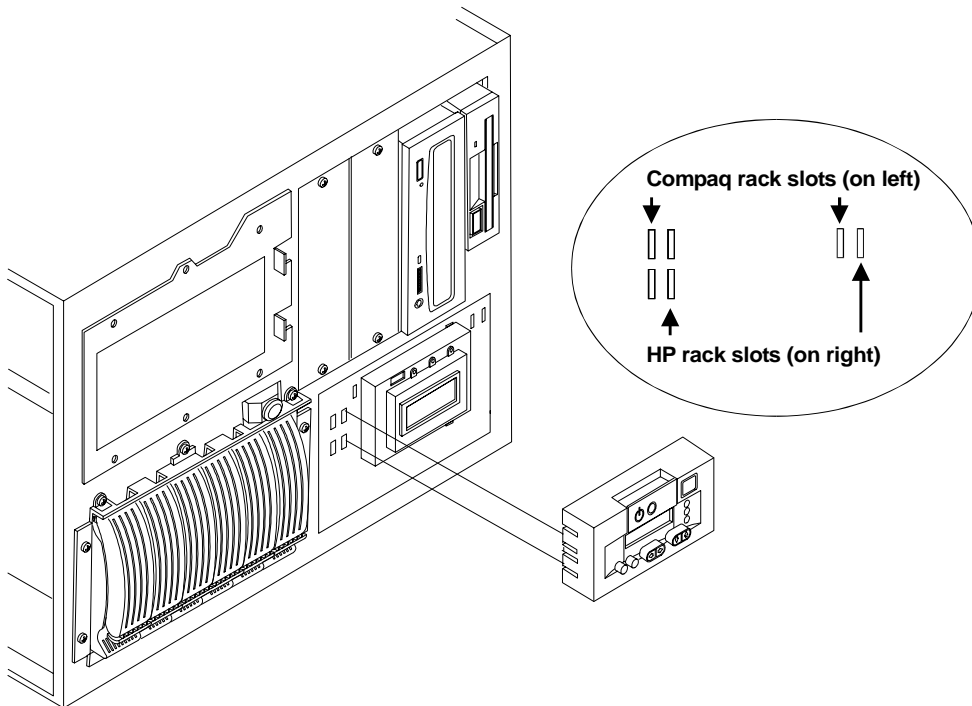

Figure 3-4. Reattach the Control Panel Bezel
7. Refer to Figure 3-4. Mount the control panel bezel over the control panel in the set of slots appropriate for your rack: